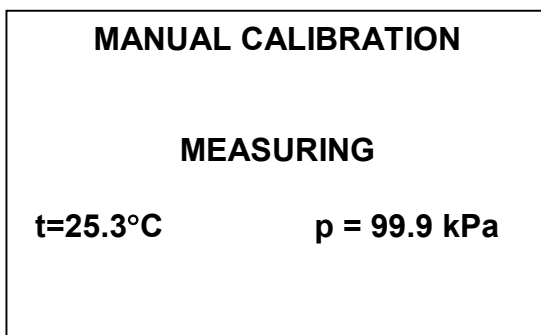
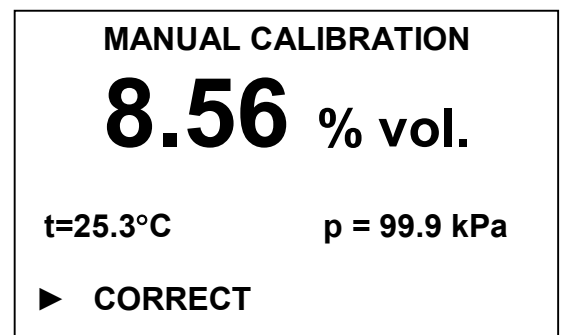

Fig. 2.17
Fig. 2.18
- 3 Move the marker to the "% vol." command and press the key . The display shown in Fig. 2.17 shall come up, first, and then the display shown in Fig. 2.18.